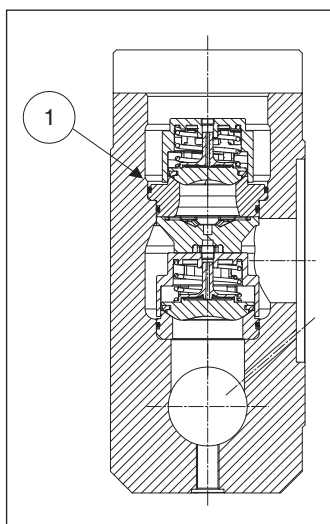

Fig. 189
**Pay special attention to fitting the O-ring shown in pos. ①, Fig. 189.**